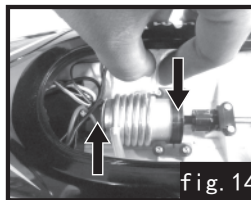

fig. 14
- 14.Connect the plastic water hose to the cooling tube on the motor,fig.14.